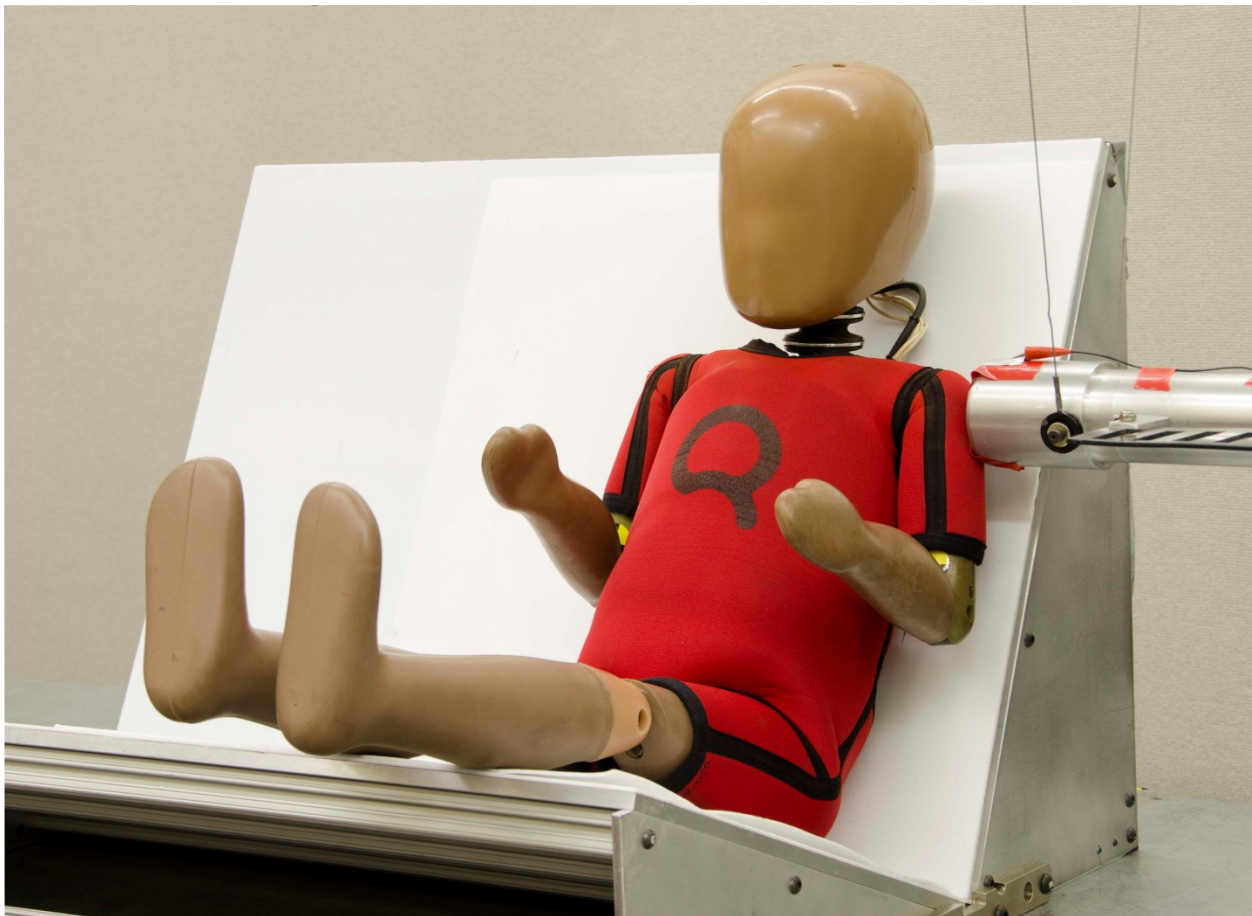

Figure 77. Final setup for shoulder qualification test
- Figure 77 shows the final setup for the shoulder qualification test.